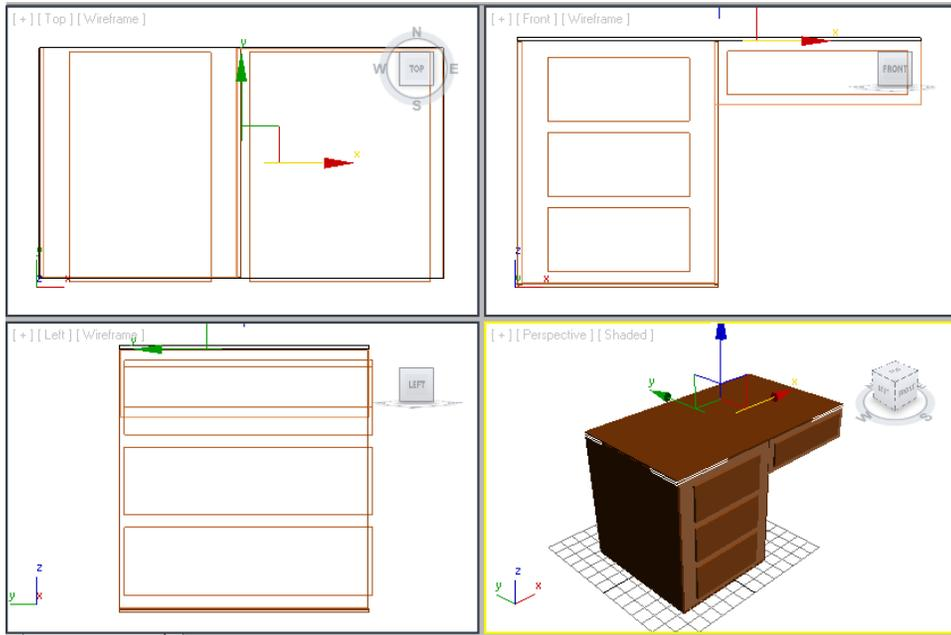

Figure 2-49 Alignment of upper face with top of the table
7. Align *upper face* with the top of the table, as shown in Figure 2-49.